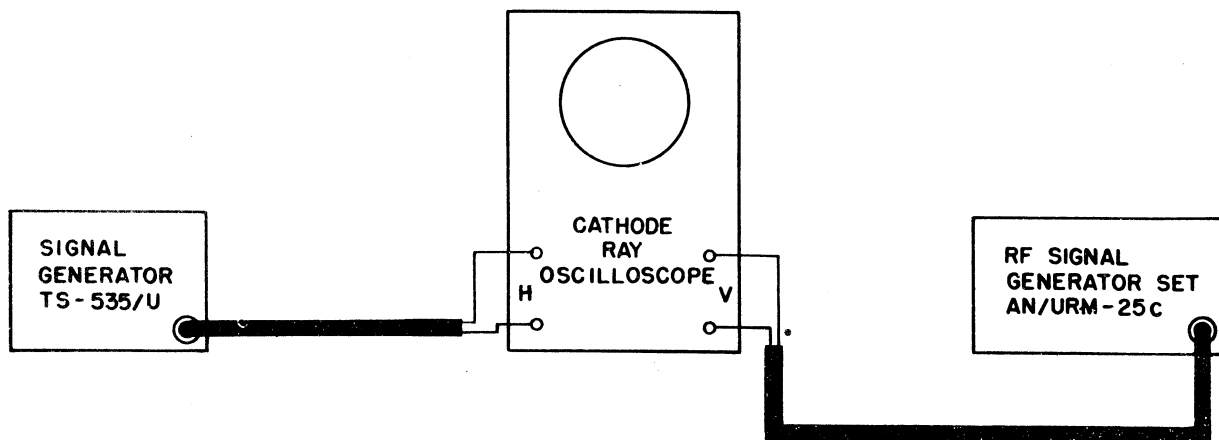

Figure 6-8. Method for Calibrating the RF Signal Generator Set AN/URM-25C at Frequencies Below 100 Kilocycles
(4) In using the heterodyne frequency meters referred to in paragraph 8 of this section, connect the output test cable (W-104) to the heterodyne frequency meter. Place a pair of earphones across the output of the frequency meter. Make the necessary capacitance and inductance adjustments while listening for a zero beat on the earphones.
(5) For calibrating frequency ranges below 100 kc, use the Signal Generator TS-535/U. Feed the output from the RF Signal Generator Set AN/URM-25C and Signal Generator TS-535/U to the horizontal and vertical inputs of an oscilloscope such as Oscilloscope OS-8/U, Navy Models OBL or OBT series (See figure 6-8). Adjust the frequency of the Signal Generator TS-535/U and the frequency of the RF Signal Generator Set AN/URM-25C to the same value. Be sure to calibrate the Signal Generator TS-535/U according to its instruction book before using it as a standard in this procedure.